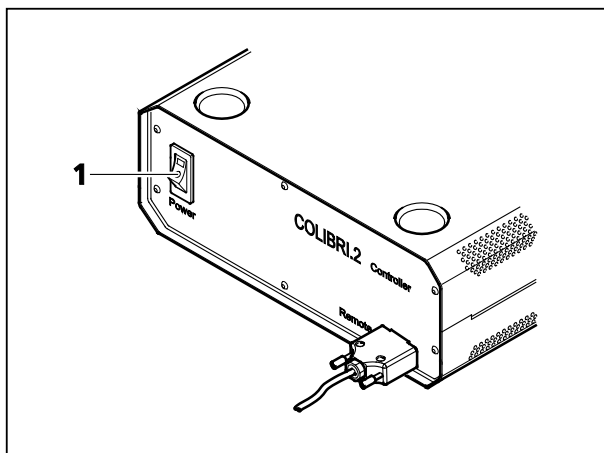

Fig. 4-1 Control unit
- Switch the Colibri.2 illumination system on/off by means of the ON/OFF switch **Power** (Fig. 4-1/1) at the front of the control unit.